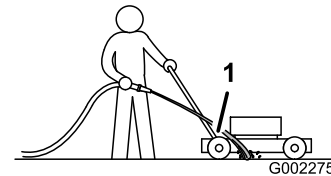

Figure 34
3. Hold the running garden hose at handle level and direct the water to flow on the ground just in front of the **right** rear wheel (Figure 34).